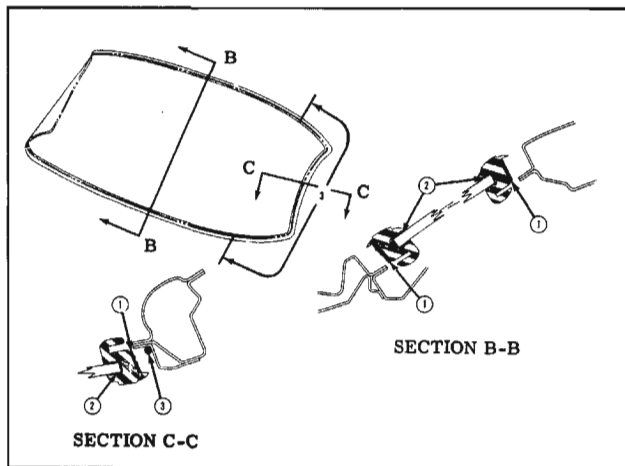

Fig. 16-212 Windshield Sealing
- Apply a ribbon of medium-bodied sealer completely around base of rubber channel as indicated by "1". (Fig. 16-212)